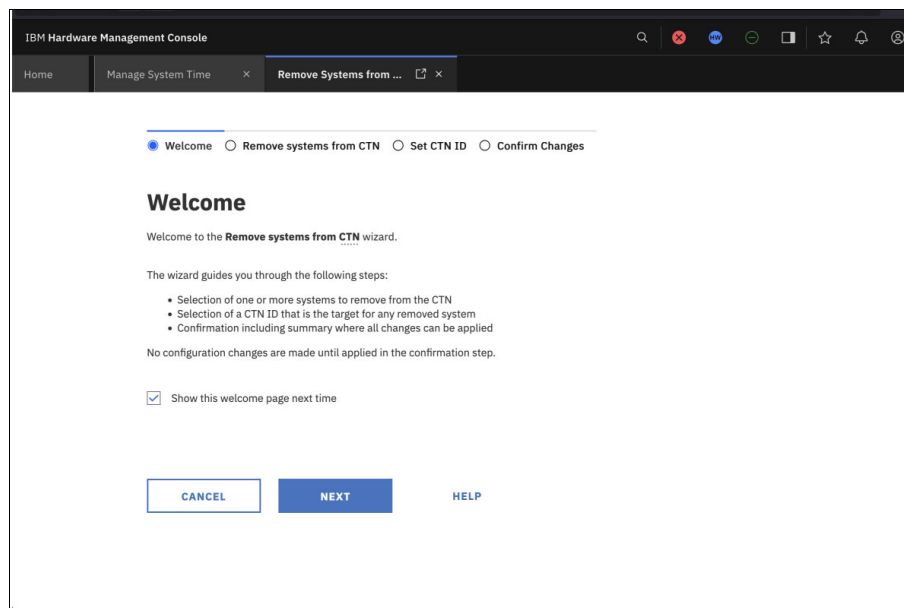

Figure 3-36 Remove systems from CTN task Welcome menu
1. Start the Remove systems from CTN task and proceed to the Welcome menu shown in Figure 3-36.